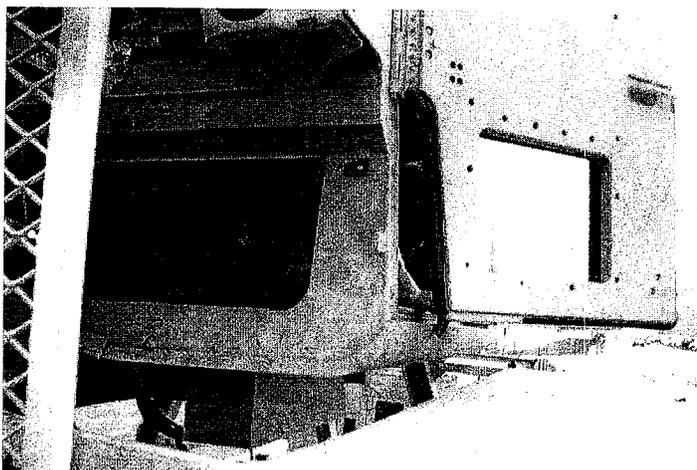

Figure 4-2. The armored door was not designed to swing on an inverted hinge – an added risk for such operations.
a. Combat door locks on the M1114 Up-armored HMMWV keep the enemy out. When locked, they make it extremely difficult for rescuers to enter the vehicle. Commanders should determine when combat locks should be used when conducting operations near bodies of water. Also, consideration must be given to the inherent difficulty in opening an unlocked armored door – since it was not designed to swing on an inverted hinge – and the risk added to the assessment for such operations. See figure 4-2.
(1) Accident damage may also jam doors, making them impossible to open.
(2) If the doors cannot be opened and the vehicle is in water too deep to allow air in the vehicle, the likelihood of drowning is significantly elevated. In this case, rescuers must immediately roll the vehicle on its side using all available means (tow straps, rope, winch cables, etc.) to gain access to the turret.